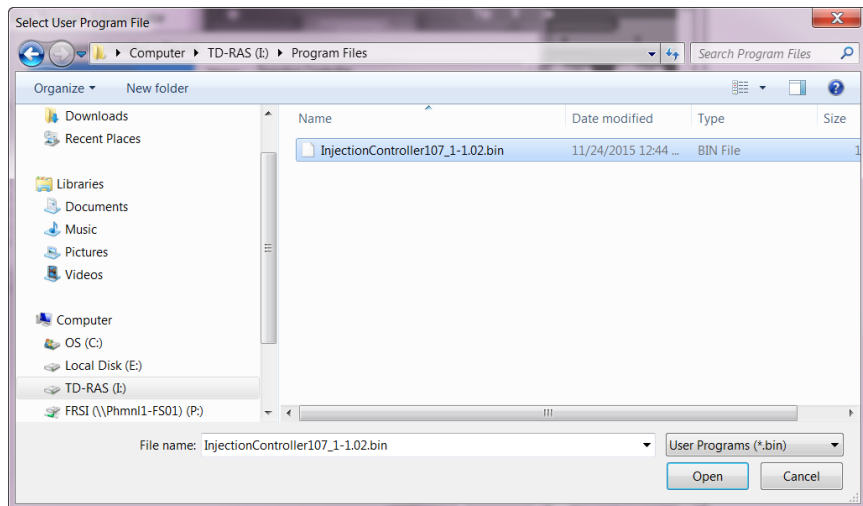

Figure 8. Select User Program File
5. Click **Browse** in the Download User Program File frame. The Select User Program File screen displays (see Figure 8).